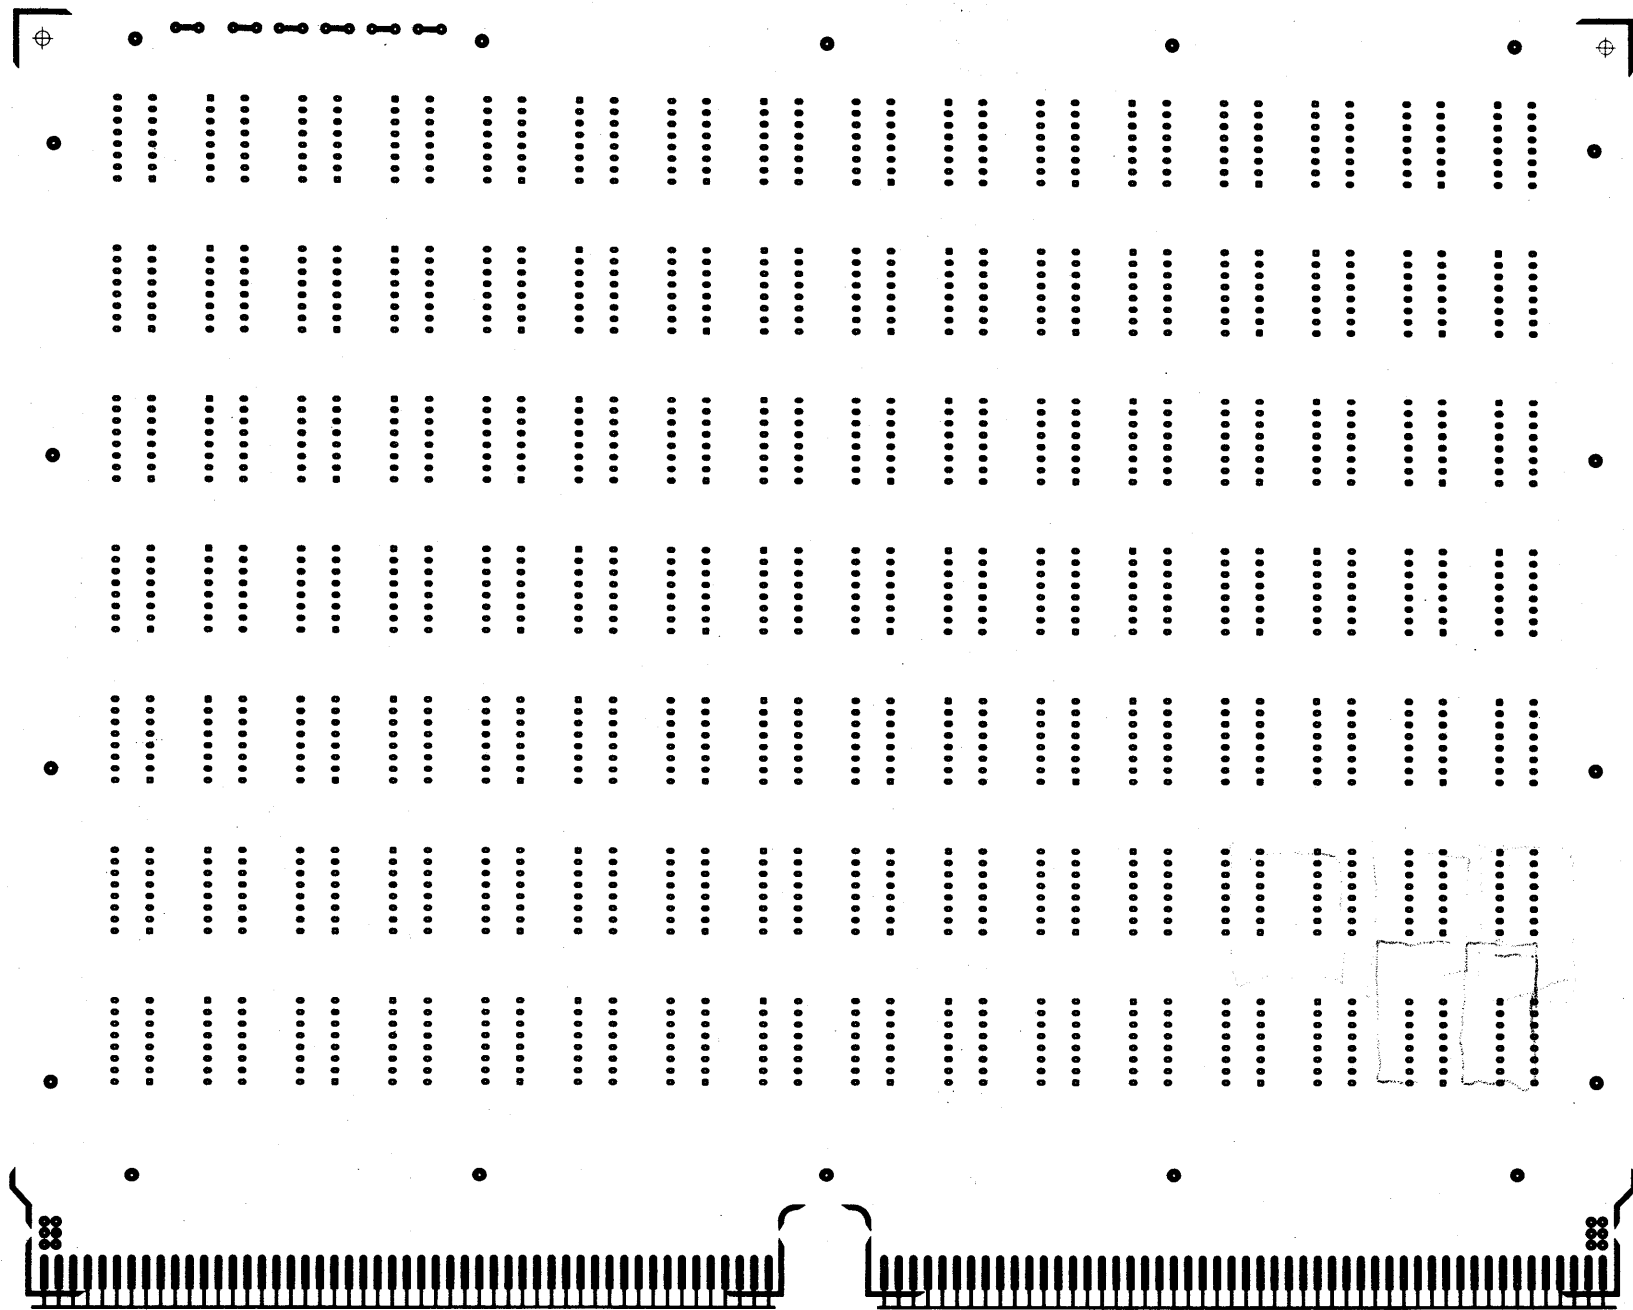

Figure 13. Pad Pattern
- Dual in-line pads are of the elongated type, $.055 \times .075$ inch, with a pad for pin #1 .060 inch square (see Figure 13).
- A second mylar is used to create a "pad pattern" which contains every single pad required on the board (Figure 13).